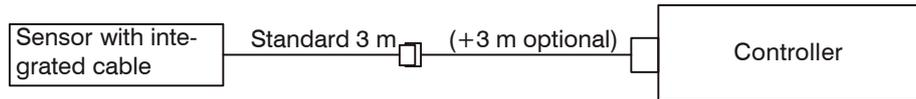

Fig. 5 Type of sensor cable, connection integrated in the sensor
- Connection already integrated in the sensor, see Fig. 5: Type U05, U1, S1, or